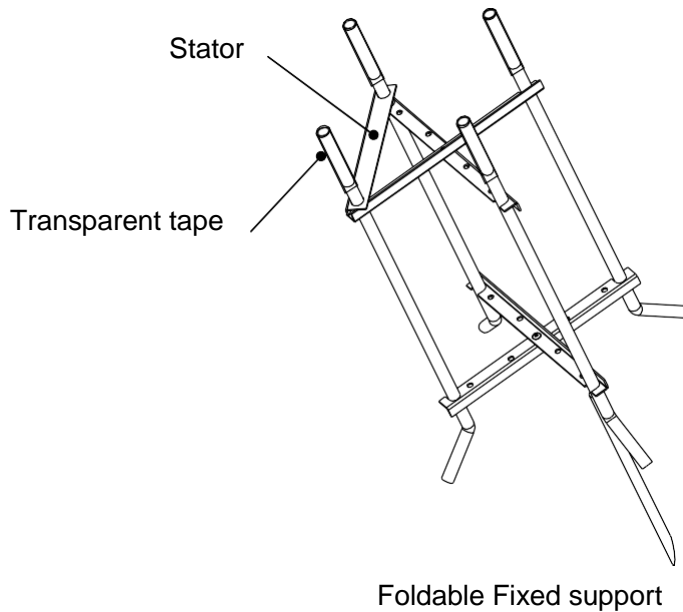

Figure 15
- ① As shown in Figure 15, folded cage expanded, fixed with a stator and with transparent tape wrap the top four screw columns of the cage, prevent the screws columns stained cement.